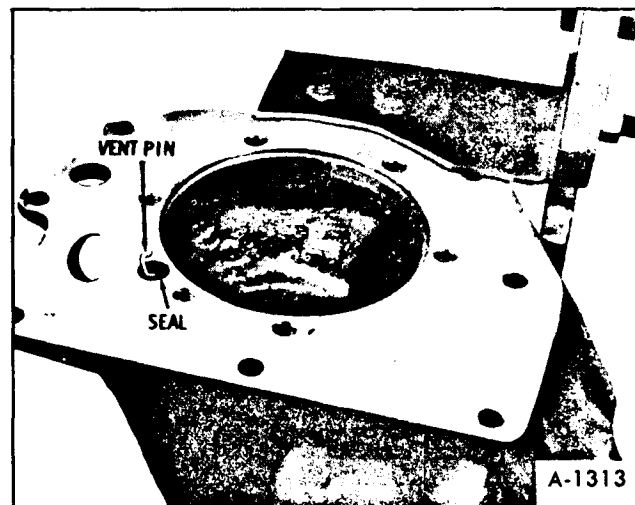

Figure 25—Removing Vent Pin And Seal
12. Remove seal and vent pin from housing. (figure 25)